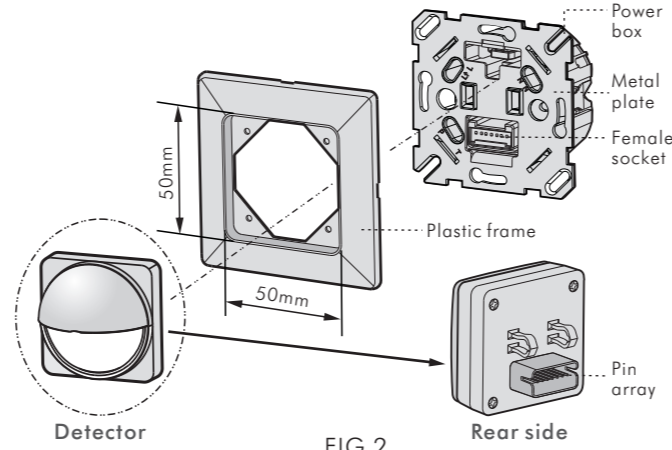

FIG.2
### 2.3 Decomposed pattern (See FIG.2)
FIG.2 shows the individual part of OS-471D. The internal size of plastic frame is 50 x 50mm which can replace European standard plastic frame directly.
3.3.1.5 Put the detector head and the plastic frame together, then insert the combination of detector head and plastic frame into the power box by means of hook aiming at the notch. Please ensure the pin array and female socket are well fixed (See FIG.2).